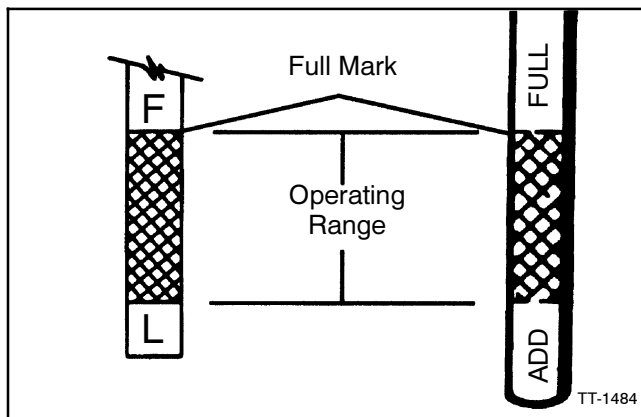

Figure 2 Oil Level/Dipstick Detail
8. Fill the crankcase with the new oil to the *F* or *FULL* mark on the dipstick. Always check the level with the dipstick before adding more oil. Never operate the engine with the oil level below the *L* or *ADD* mark, or above the *F* or *FULL* mark. See Figure 2.